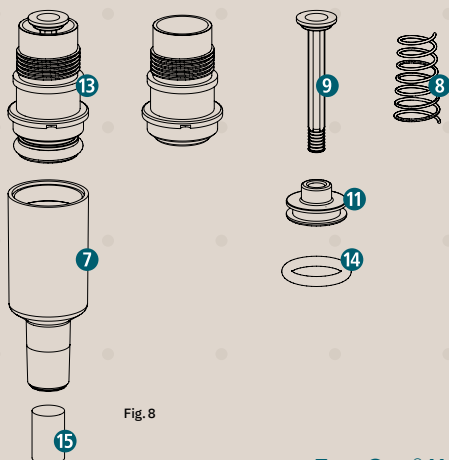

Fig. 8
- Carefully unscrew the pipette cone **7** and the piston unit **13** in a clockwise direction. Pull the support ring **11** off the piston **9**. Remove the O-ring **14**. Now you can clean the spring **8** and the piston (Fig. 8).